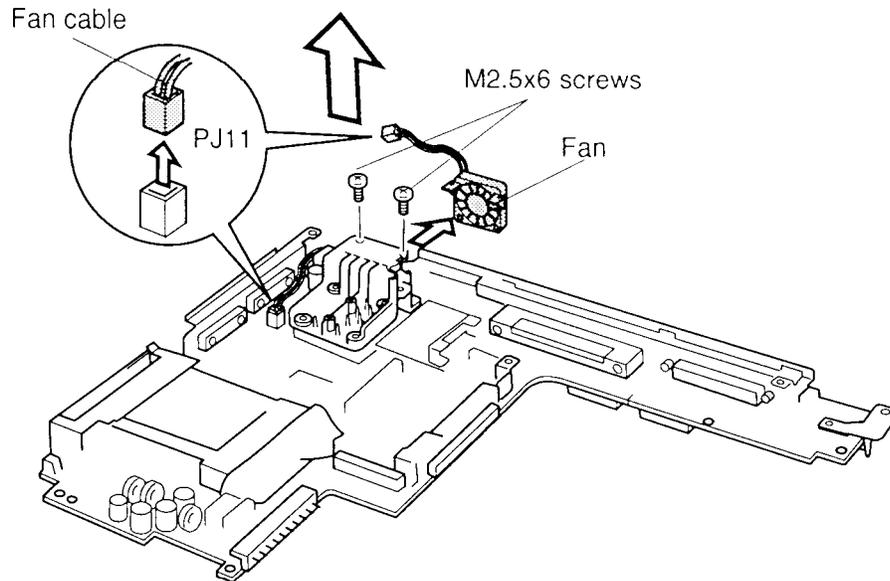

Figure 4-36 Removing the fan
2. Connect the **fan cable** to **PJ11** (figure 4-36).